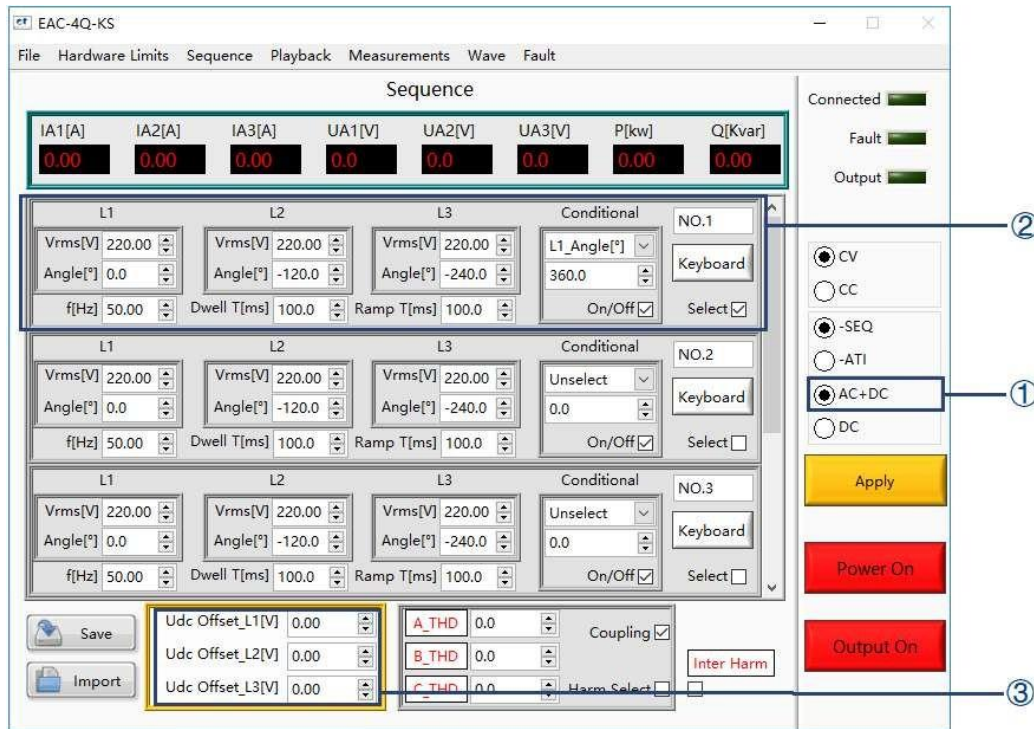

Figure 5-13 AC+DC/AC/DC mode
Click "Sequence" to enter the panel, select AC+DC output mode (AC+DC) on the right side (Figure 5-13①), the user can choose different operating modes (CV/CC) according to the test requirements, and set the AC voltage/current (Figure 5-13②) and DC offset voltage/current (Figure 5-13③). After setting the parameters, click "Apply"→"Power On"→"Output On" in turn, and the power supply is on.
Click "Sequence Mode" to enter the sequence mode test panel, select AC+DC output mode (AC+DC) on the right side of the panel (Figure 5-13①), the user can select different operating modes (CV/CC) according to the test requirements, and set the AC voltage/current (Figure 5-13②). After setting the parameters, click "Apply"→"Power On"→"Output On" in turn, the power supply is on and outputs AC voltage/current.